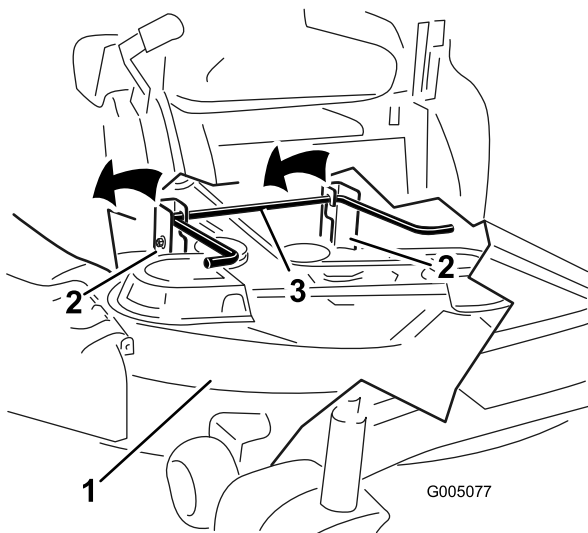

Figure 48
- Lift the mower deck and hanger brackets clear of the rear lift rod and lower the mower carefully to the ground (Figure 48).
5. Lift the rear of the mower deck and guide the hanger brackets over the rear lift rod (Figure 48).